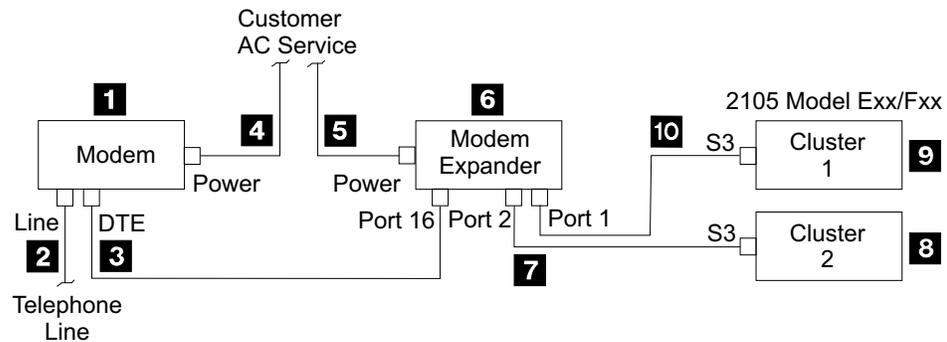
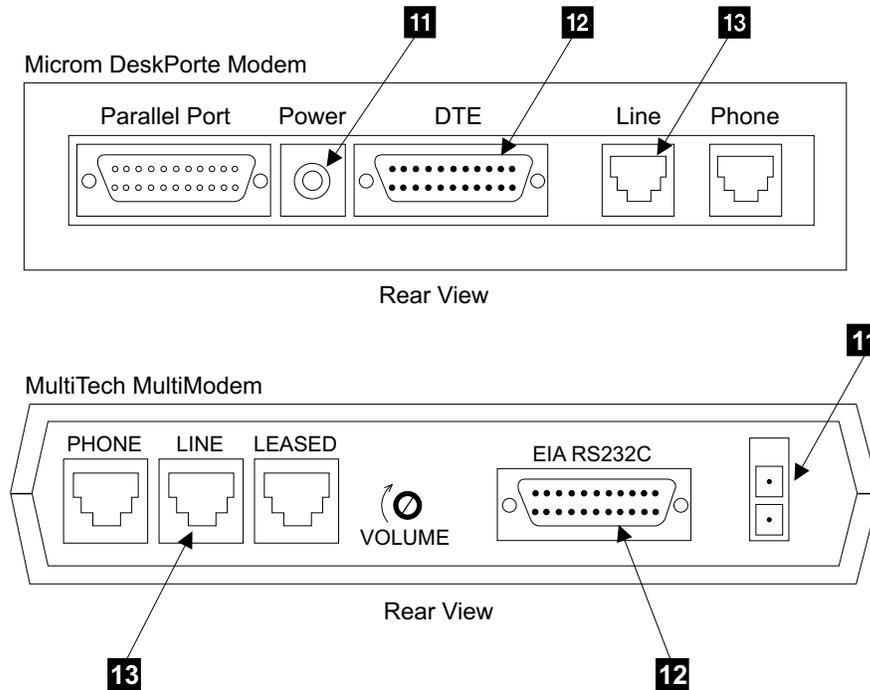
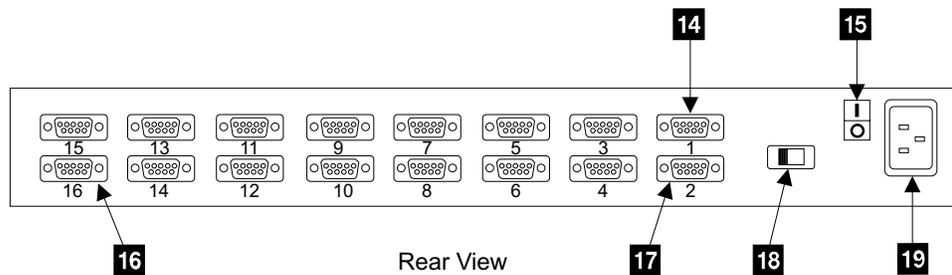
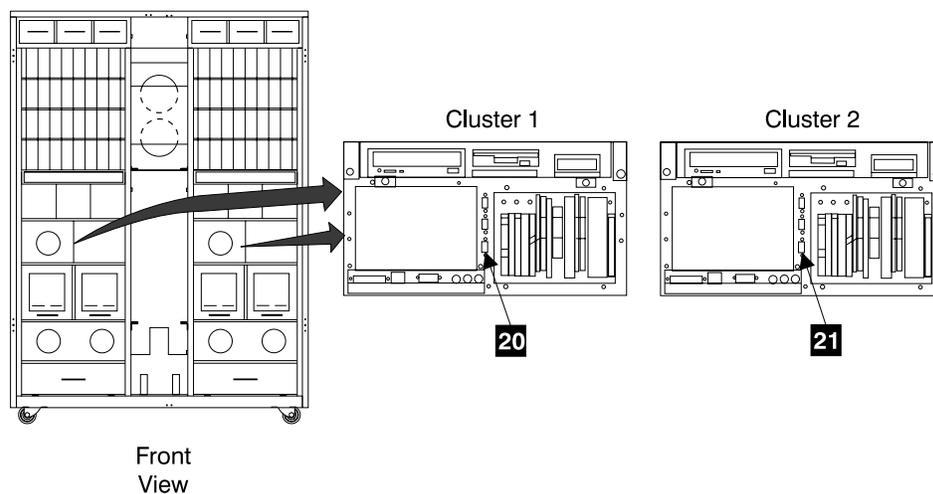

Figure 246. Modem and Modem Expander Attachment Diagram (S008815I)
Figure 249. Modem Rear View (S008410I)
Figure 250. Modem Expander Rear View (S008411I)
Figure 251. Cluster Bay Modem Connectors (S007625m)
2. Locate the Modem Kit, ordered separately, but shipped with the 2105 Model Exx/Fxx Ship Group (Feature Code for US/Canada 2715). Place the modem **1** [Figure 246] and the modem expander (asynchronous port switch) **6** [Figure 246] in an area between the customer supplied AC service and the 2105 Model Exx/Fxx cluster bays.
- ___ 6. Plug the 25-pin end of the data cable **3** [Figure 246], into the DTE connector **12** [Figure 249] on the back of the modem. Plug the 9-pin end of the data cable into Port 16 **16** [Figure 250] on the back of the modem expander. Tighten the cable connector retention screws.
- ___ 7. Plug the RJ-11 telephone cable **2** [Figure 246], into the LINE connector, **13** [Figure 249] on the back of the modem. Plug the other end of the cable into the customers telephone line connector.
- ___ 8. Plug the modem power adapter **4** [Figure 246], into the POWER connector **11** [Figure 249] on the rear of the modem. Plug the other end of the cable into the customers AC service outlet.
- ___ 9. Determine if the customer supplied AC input voltage for the modem expander is in the range of 115 V ac or 230 V ac. Set the voltage range switch **18** [Figure 250] on the rear of the modem expander to match the customers AC voltage:
- ___ 10. Plug the power cord **5** [Figure 246], supplied with the modem expander, into the power connector **19** [Figure 250] on the rear of the modem expander. Plug the other end of the cable into the customers AC service outlet.
- ___ 13. Connect cluster bay 1 **9** [Figure 246] to modem expander port 1: Plug the connector labeled *CLUSTER S3* of the null-modem cable **10** [Figure 246], into the cluster bay 1, S3 connector **20** [Figure 251], on the front of cluster bay 1. Plug the other end of the cable labeled *MODEM EXPANDER* into Port 1 **14** [Figure 250], on the rear of the modem expander.
- ___ 14. Connect cluster bay 2 **8** [Figure 246] to modem expander port 2:
Connect the other null-modem cable **7** [Figure 246] to the S3 connector **21** [Figure 251] on the front of cluster bay 2. Plug the other end of the cable into the into Port 2 **17** [Figure 250], on the rear of the modem expander, go to step 17.
- ___ 15. Connect cluster bay 1 **9** [Figure 246] to the next available modem expander port:
Plug the 9-pin connector end of the null-modem cable **10** [Figure 246], into the S3 connector **20** [Figure 251] on the front of cluster bay 1. Plug the other end of the cable into the lowest numbered port available on the rear of the modem expander [Figure 250].
Connect the other null-modem cable to into the S3 connector **21** [Figure 251] on the front of cluster bay 2. Plug the other end of the cable into the lowest numbered port available on the rear of the modem expander [Figure 250]. Go to step 17.
- ___ 18. Power on the modem expander. At the rear of the expander press the power switch **15** [Figure 250], to On (up).